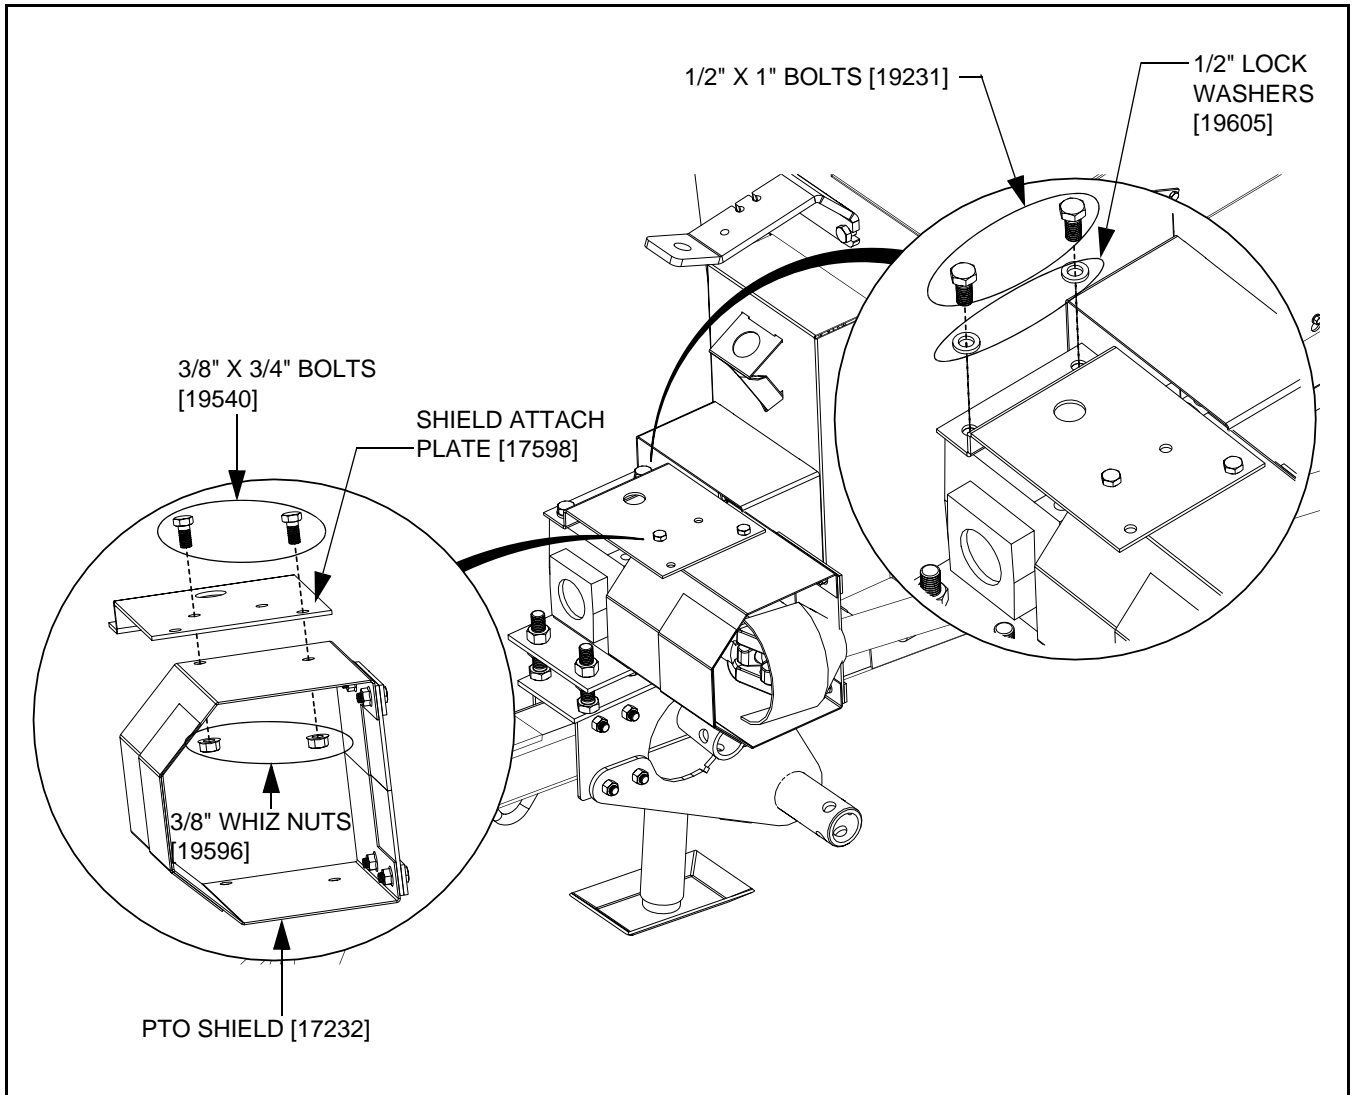

Figure 7 Installing the PTO Drive Guard and Guard Attach Plate
5. Secure the PTO drive guard to guard attach plate using 3/8" x 3/4" bolts and washer locknuts, then tighten bolts (see Figure 7).
6. Slide PTO drive guard over PTO driveline, then attach to gearbox using two 1/2" x 1" bolts and lock washers as shown in Figure 7.